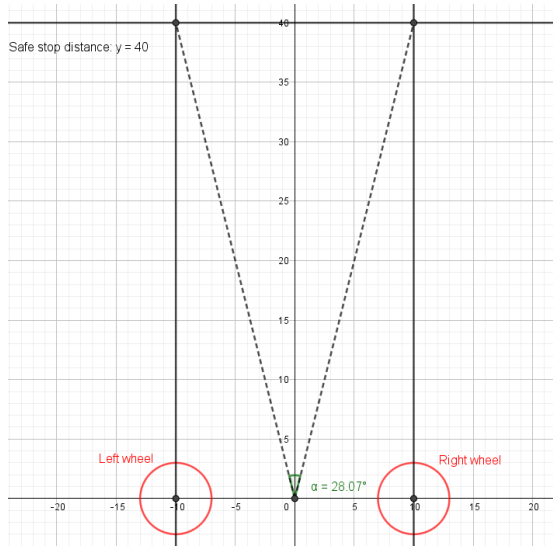

Fig. 4. Blind angles
3) *Checking the blind angles:* In addition to the three directions we had already implemented, we decided to focus on two more directions; the so-called blind angles. These were meant to make the robot able to avoid an obstacle if it was only slightly in front of it, but not so much that the average would get low enough to cause a turn event. We calculated these by measuring the minimal distance between two obstacles that robot could drive through - that is, the width of the robot, which we measured to be 20cm. We wanted the robot to begin avoiding the obstacles at the blind angles from a distance of 40cm. We got the results using GeoGebra as depicted in figure 4. We also wanted these angles to be very narrow such that the robot would be able to detect even a small corner of some obstacle. For this reason we only looked at a span of 8 degrees.